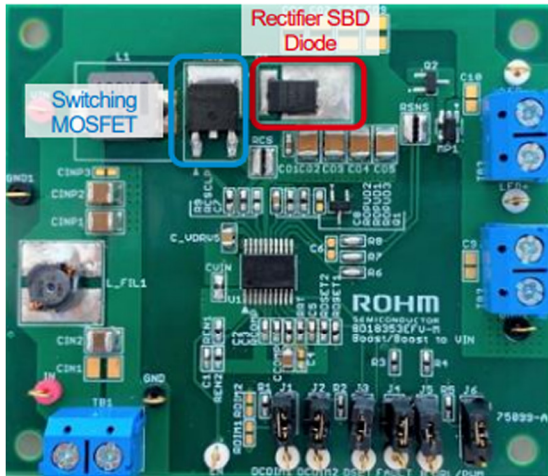
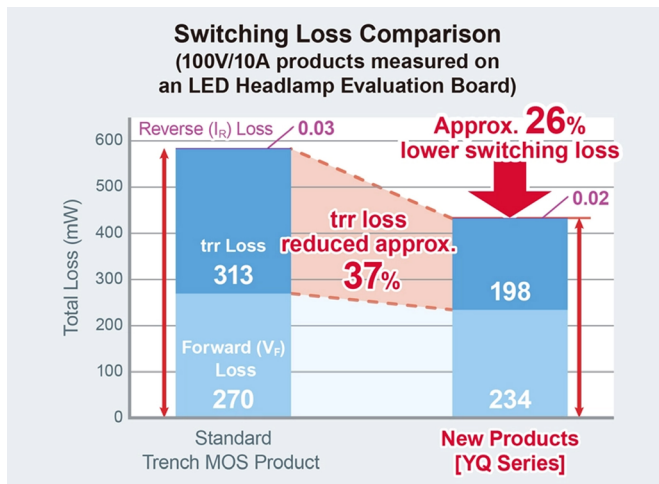

Figure 9: Picture of the evaluation board and circuit diagram.
Figure 10: Switching loss comparison measured on an LED headlamp evaluation board.
Using the ROHM automotive LED driver BD18353EFV-M[2] and its evaluation board, as shown in Figure 9, the power conversion efficiency and heat generation of a ROHM YQ10RSM10SD (100V/10A/TO-277) were compared to similar products from other companies. Figure 9 outlines the switching MOSFET in blue, and a ROHM RD3P-100SNFRA (100V/10A/TO-252) was used. Figure 10 shows the evaluation board and circuitry used. This evaluation was performed by exchanging the rectifier diode, outlined in red, in the boost block.
Based on results from the LED Headlamp Evaluation board, when a standard trench MOS product is compared to the ROHM YQ series product (see Figure 10), the trr loss is reduced by approximately 37%, and the switching loss is reduced by 26%.
- Figure 10: <https://www.rohm.com/documents/11303/12540685/img2.webp/7495a33a-047d-be20-31c1-92bfc2854ca4?t=1707958811858>